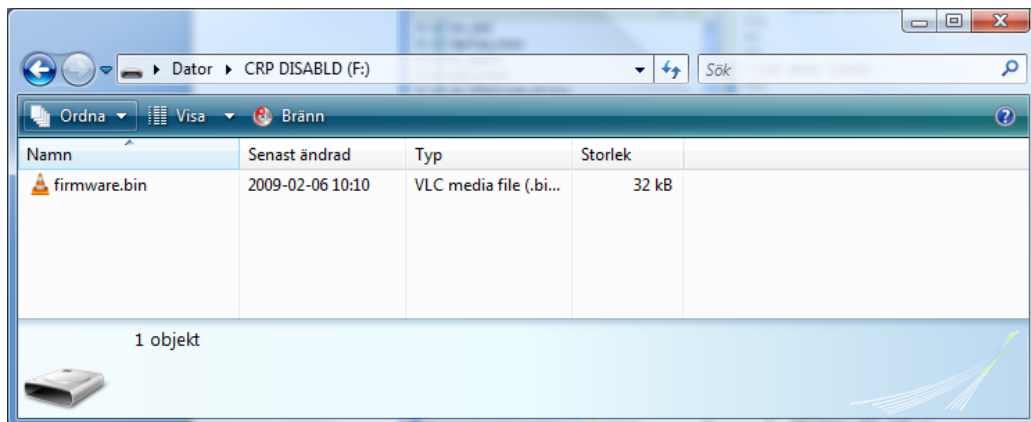

Figure 8 – Mass Storage Device
6. Press down the bootload push-button (SW2) and then press and release the reset push-button (SW1) on the *LPC11U35 QuickStart Board*. A storage device named CRP DISABLD will now appear on your computer, see *Figure 8*.